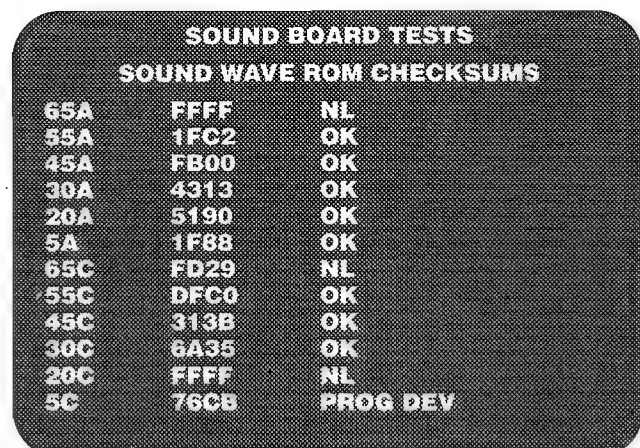

Figure 2-27 Sound Board Sound Wave ROM Checksums
- *SD ROM Checksums* displays the location of the ROM, a hexadecimal number, and then the results of the check. See Figure 2-27. The results can be the following: